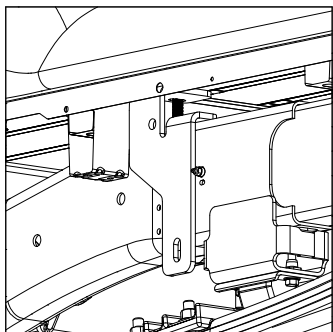
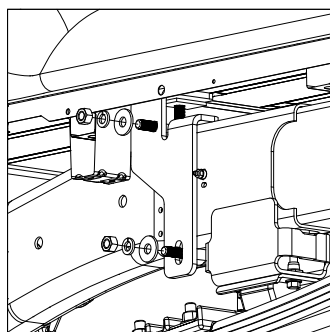

Figure C4: View looking at outside of driver side frame.
Figure C5: View looking at outside of driver side frame.
5. **Install front brackets.** Locate the driver side front bracket, a U-bolt, two 1/2" x 2" carriage bolts, 1/2" flat washers, 1/2" lock washers and 1/2" finish nuts. Position the bracket behind the cross member under the installation location of the forward mounting rail. Maneuver the bracket so that the 1/2" carriage bolt passes through the slot at the top of the bracket as shown in Figure C4. While holding the bracket flat against the outside of the frame pass the U-bolt over the frame and through the bracket and secure with 1/2" hardware, see Figure C5. Repeat for passenger side. Hand tighten each nut.